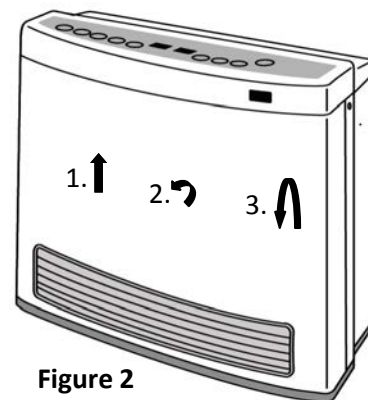

Figure 2
- FC824:** Remove 2 screws near to top of the appliance as well as the 3 screws on the back of the control panel (**Figure 3**). Lift the front panel upwards and rotate toward you. Pull downward to remove the front panel. (**Figure 2**)